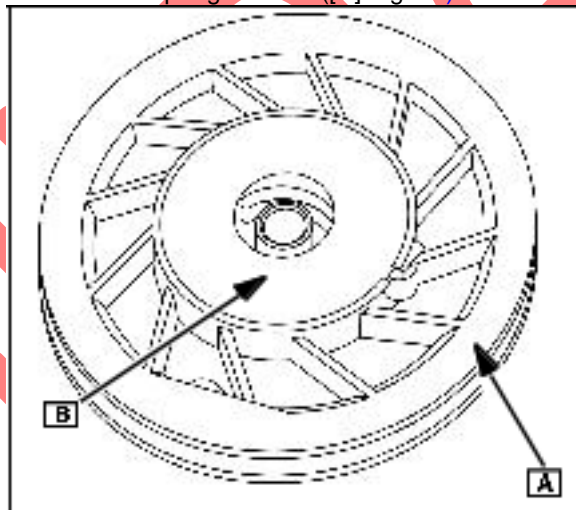

Fig. 23
Inspect starter pulley (A) for cracks, rough edges, wear, burrs in pulley groove, or a loose spring retainer ([B] Fig. 23).